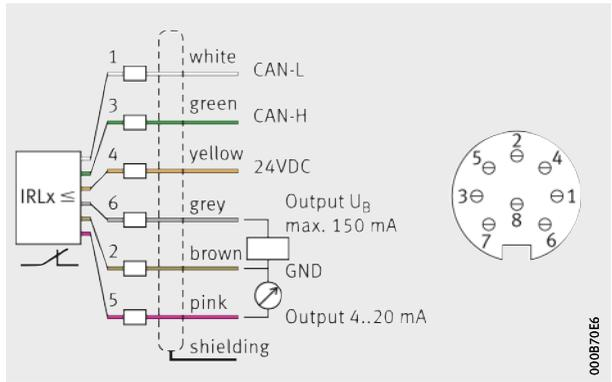

Figure 4
- connection of the connection cable for the electronic evaluation system to the infrastructure according to the plan, *Figure 4*, page 13
- ▶ Connect the supplied plug M12 in accordance with the connection plan to a 6 strand shielded twisted-pair cable with a cross-section of 0,5 mm² and connect the plug to the electronic evaluation system, *Figure 4*, page 13. With a cable length of more than 20 m, signal disruptions may occur in individual cases.
- ① Electronic evaluation system
- ② Mounting screws (not included in scope of delivery)